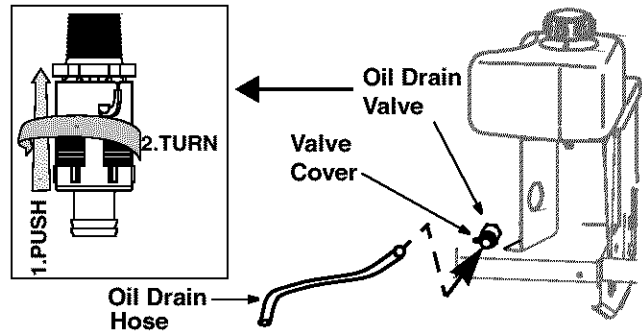

Figure 11
- Remove yellow valve cover on the oil drain valve and attach one end of the oil drain hose to this opening. This valve is located at the end of a 90 degree fitting near the fuel tank mounting bracket. See Figure 11.
- Grip oil drain valve, push in and turn counter-clockwise until it stops. See Figure 11 inset. Pull out the drain valve.